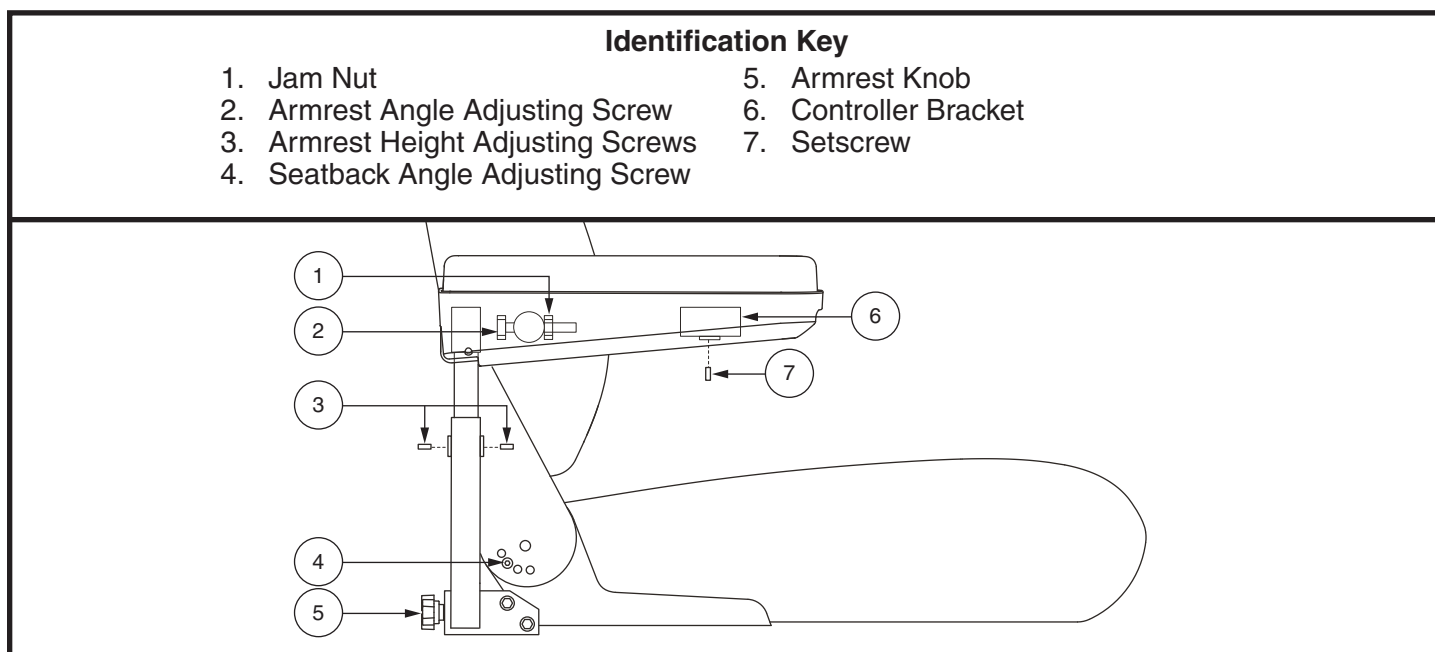

Figure 13. Seatback and Armrest Adjustments for Contour Seat
1. Remove the adjusting screws from each seat hinge. **See figure 13.**
1. Locate the two armrest knobs on each side of the armrest receiver bracket. **See figure 13.**
1. Lift the armrest straight up so that it is perpendicular to the floor. **See figure 13.**
1. Loosen the two setscrews located on the armrest receiver. **See figure 13.**
2. Loosen the setscrew on the controller bracket. **See figure 13.**
11. Secure the controller harness to the armrest with wire ties. **See figure 13.**